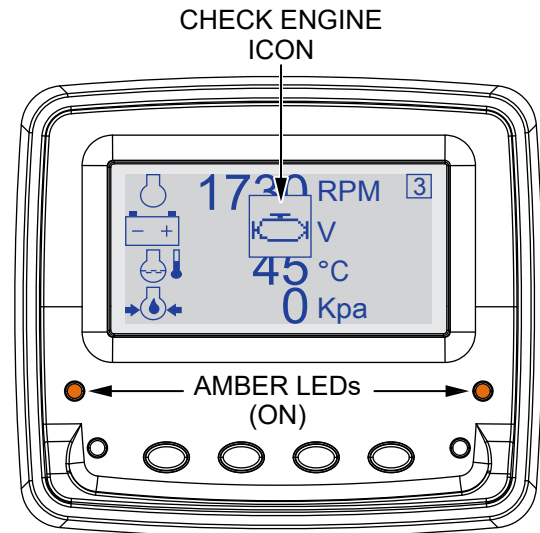

Figure 22. Diagnostic Display (Active Fault)
- If the **amber LEDs** are **ON** (Figure 22), and the **Check Engine icon** is shown on the display, there is an active fault condition. Shut down the engines and correct the problem before continuing operation. Refer to the **Troubleshooting** section for more information.